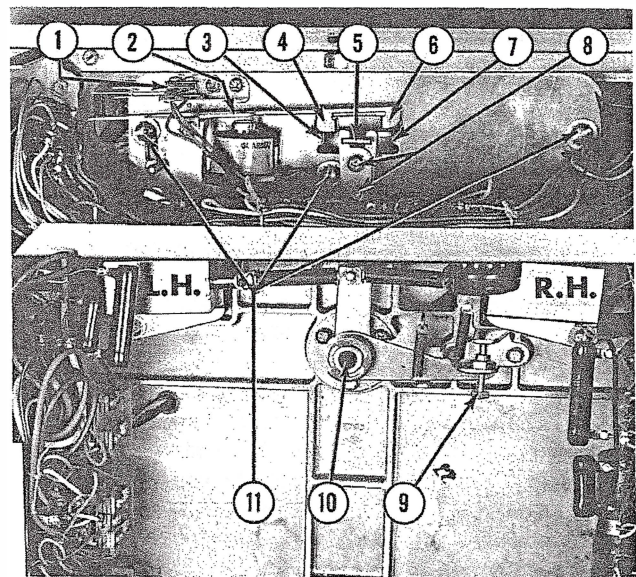
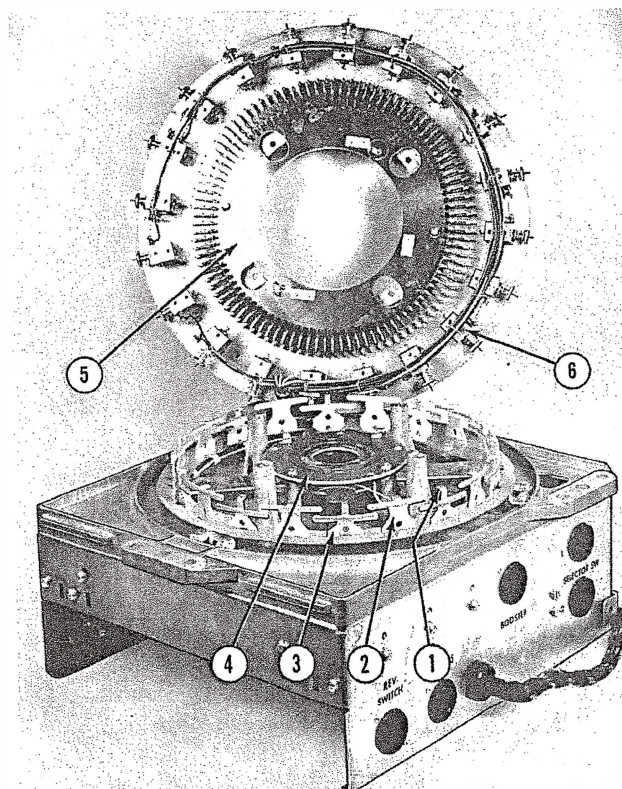
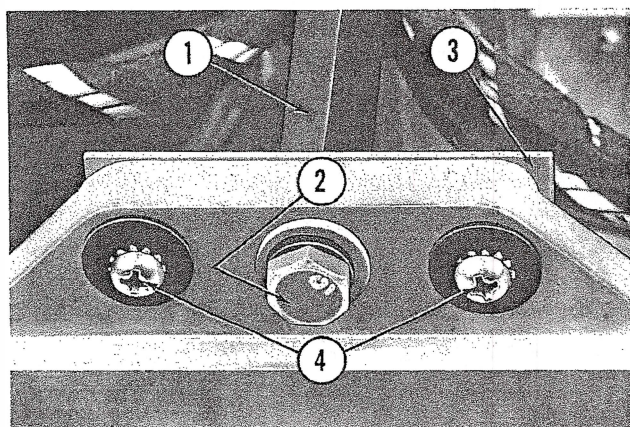
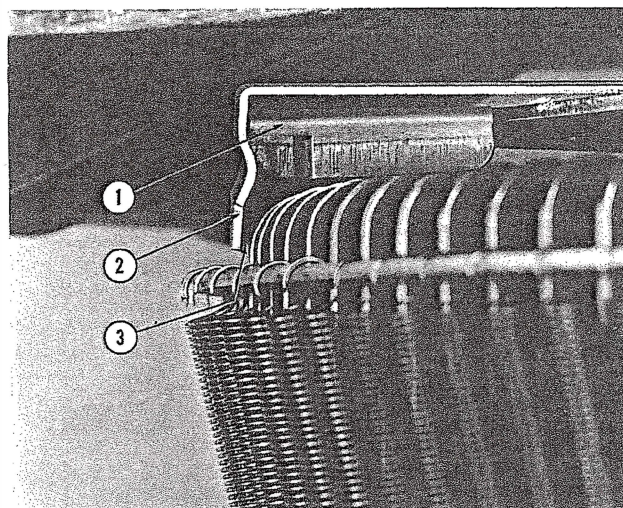

Fig. 33. ELECTRIC SELECTOR, 2410
Fig. 35. ELECTRIC SELECTOR ASSEMBLY, 2410
Fig. 39. GUIDE PLATES AND MOUNTING
Fig. 40. ELECTRIC SELECTOR CENTERING
(1) The adjusting screws (Fig. 33, Item 8) should be loosened and the guide plate set to zero clearance with the stop bracket (Item 5) on the rocker plate assembly.
(2) The adjusting screw (Item 9) should be set to align the tips of the rocker arms (Fig. 35, Item 1) with the selector pins number 3, A through
(3) Loosen the three mounting screws (Fig. 33, Item 11) and manually move the rocker plate until the stop bracket (Item 5) rests against the extreme right hand stop (Item 7). In this position the tips of the rocker arms (Fig. 35, Item 1) should align with the selector pins number 1, A through K and pins number 6, A through K. The mounting plate held by the screws (Item 11) may be moved to provide the correct alignment.
(4) Check the rocker arm alignment while holding the rocker plate in the extreme left hand stop position (Item 3). The tips of the rocker arms should be in alignment with selector pins number 5, A through K and pins number 0, A through K.
The stop magnet switch (Fig. 33, Item 1) should be set to provide a  $1/32$ " gap at the normally open contacts and have a  $1/32$ " wiping action when the switch is actuated. They should be adjusted to make before break.
j. Centering of the 100 selection selector pin assembly normally is not required if the original assembly is retained with its changer. The mounting is the same as the 104 assembly. However where selector pin assemblies are interchanged on the 100 selection changer the guide plates, one of which is shown in Figure 39, Item 3, should be loosened. The assembly loosely mounted on the three studs and centering shaft #69247 inserted through the center bushing (Fig. 33, Item 10) into the main shaft. Tighten the guide plate retaining screws and the three mounting screws. Remove the centering shaft and check the selector crank arm adjustments and for correct selections.
k. Centering of the 104 selector pin assembly has been carefully done at the factory and if the original assembly is kept with its changer it will not need recentering provided the alignment plates, one of which is shown in Figure 39, Item 3, are not disturbed. The assembly may be easily removed by disengaging all cable plugs and removing 3 mounting screws (Item 2). The screws (Item 4) should not be loosened. However, if a selector pin assembly should be mounted on another changer the alignment plates must be loosened. The pin assembly should be loosely mounted on the 3 studs and the centering clip (Fig. 40, Item 2) snapped in place on the selector crank arm (Item 1). Shift the pin assembly on its mounting studs to obtain a uniform clearance between the centering clip and all selector pins (Item 3). Tighten the alignment plate retaining screws and the mounting screws. Check the selector crank arm adjustments and for correct selection.